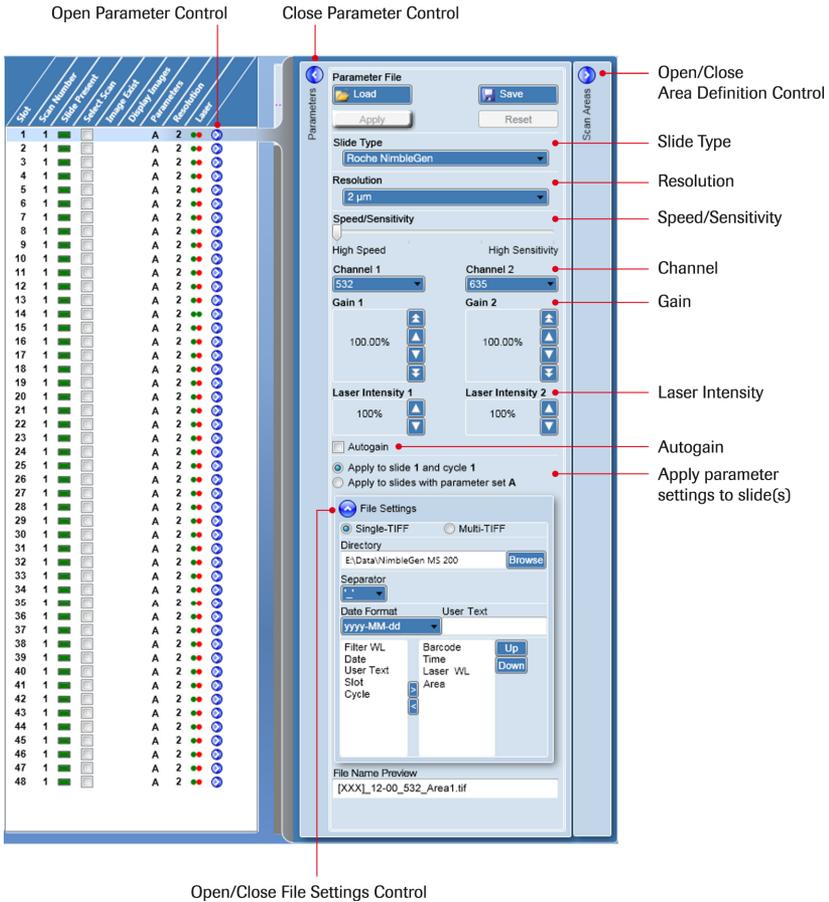
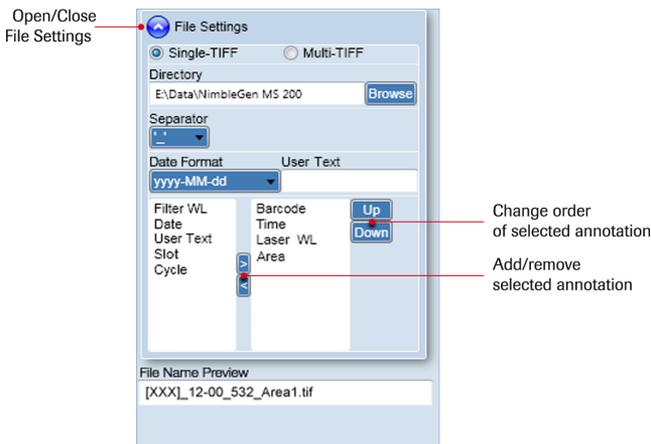

Figure 25: Magazine Control (Left) and Parameter Control (Right)
Figure 26: File Settings Control
Select the *Apply to slides with parameter set* option button in the Parameter Control (Figure 25) to apply parameter settings to all slide positions with the same parameter letter code in the Magazine Control.
1. If open, close the Parameter Control by clicking the **Close Parameter Control** button (🔵, Figure 25).
1. If open, close the Parameter Control by clicking the **Close Parameter Control** button (🔒, Figure 25).
2. If necessary, open the Parameter Control (Figure 25) by clicking the slide's **Open Parameter Control** button (🔍) in the Magazine Control.
3. In the Parameter Control, click the **Open/Close File Settings** button (🔍) to open the File Settings Control (Figure 26).
2. If necessary, open the Parameter Control (Figure 25) by clicking the slide's **Open Parameter Control** button (⊕) in the Magazine Control.
3. In the Parameter Control, click the **Open/Close Area Definition Control** button (⊕) to open the Area Definition Control (Figure 25). The following figure identifies the components of the Area Definition Control:
To activate the barcode functionality, specify “Barcode” as part of the image file name using the File Settings Control (Figure 26). To activate the autogain functionality, select the *Autogain* checkbox in the Parameter Control (Figure 25).
2. If necessary, open the Parameter Control (Figure 25).